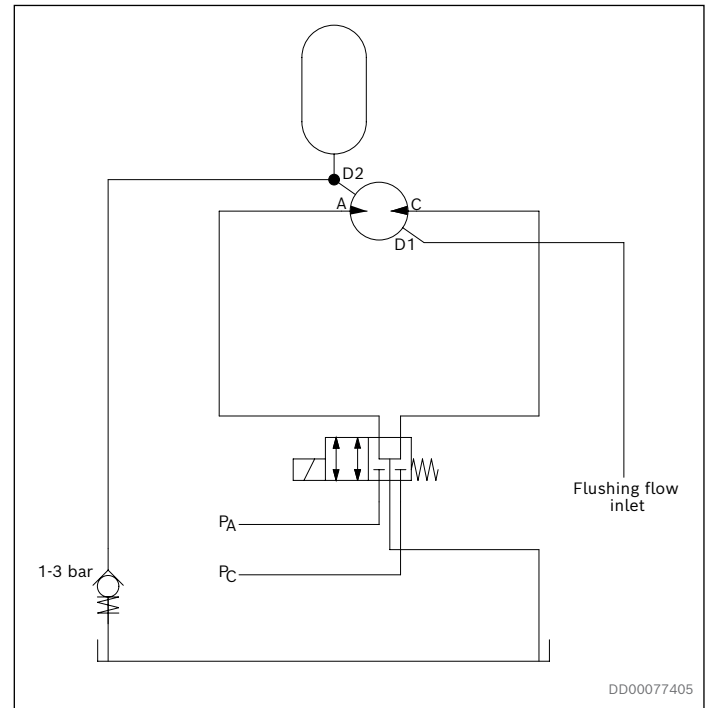
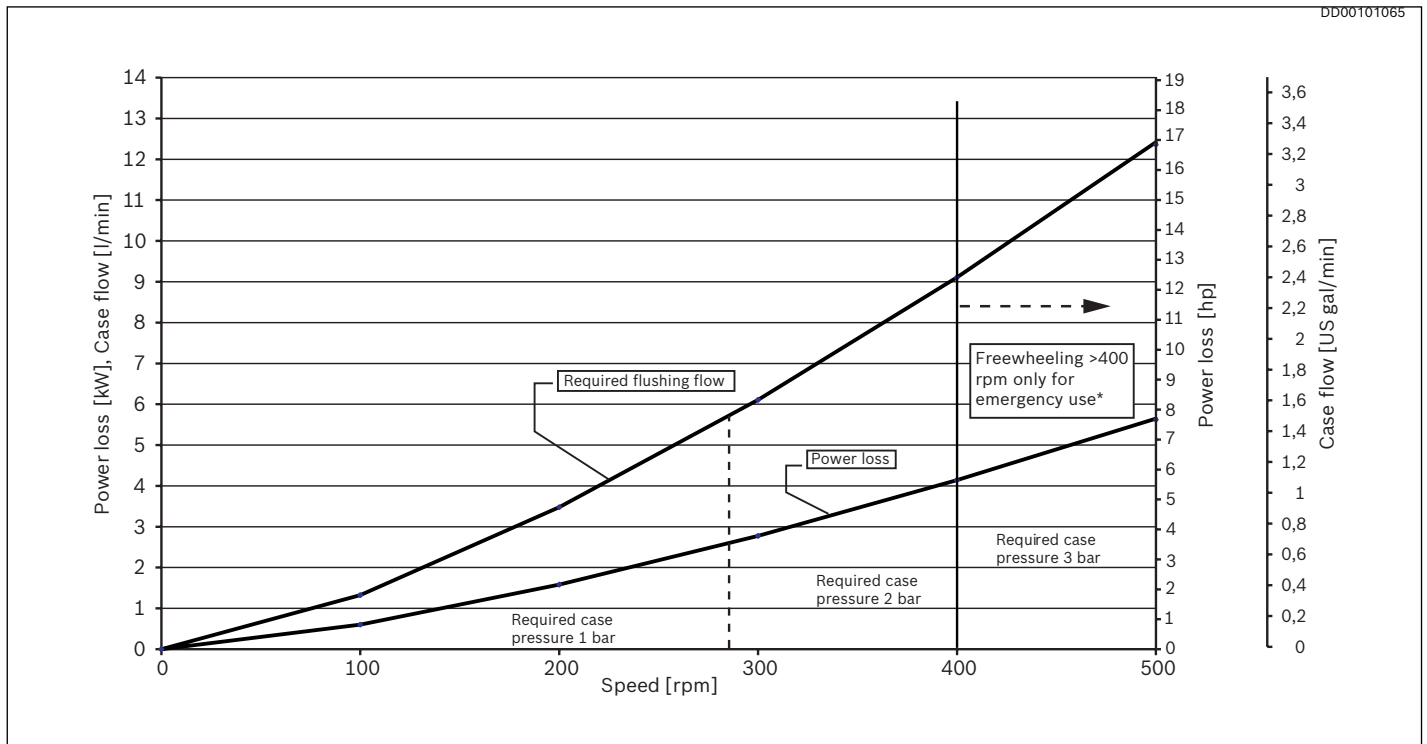

Fig. 53: Schematic principle freewheeling.
Fig. 54: Power loss freewheeling, oil viscosity 40 cSt (187 SSU)
The basic function of the freewheeling is to have the motor housing (via drain ports D1, D2 or D3) lightly pressurized (see Fig. 54) while main ports A and C are without restriction drained directly to the fluid reservoir. See Fig. 53. The case pressure introduced in the normal drain connection will then act on the outer surface of each piston assembly pressing them towards the motor centre.
3. An adequate pressure introduced into the drain ports of the motor. See Fig. 54 (required case pressure).
- The motor case must be pressurized all the time when the motor is in freewheeling mode, see *Fig. 54*.
- The motor case must be flushed all the time when the motor is in freewheeling mode, see *Fig. 54*.
An accumulator can be added into the circuit to shorten the time to retract all the pistons completely, see *Fig. 53*.
An accumulator can also be added into the circuit to reduce the pressure spikes in the motor case when the pistons are extracted, see *Fig. 53*.
Even if the freewheeling operation takes place with lowest possible friction in the main bearings and with no flow losses in the main ports of the motor, a powerloss must take place in the motor case due to viscous friction between moving and fixed parts. This powerloss is expressed in Fig. 54.
Case flushing is required to prevent overheating, see diagram Fig. 54
In order to accomplish proper freewheeling, a case pressure according to Fig. 54 has to be maintained. On the other hand, a higher casing pressure than 2 bar (29 psi) should be avoided in order to achieve good service life of the main radial shaft seal.